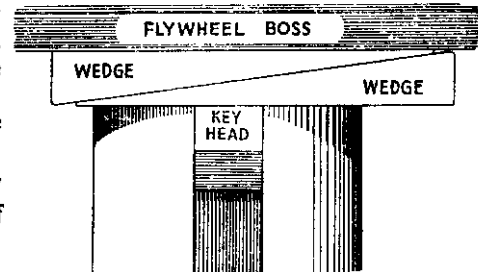

Fig. 1
- (a) By using two steel wedges in the manner indicated in Fig. 1 driving one wedge against the other between the flywheel boss and the key-head. Parallel packing should be added as required between the wedges and the boss.